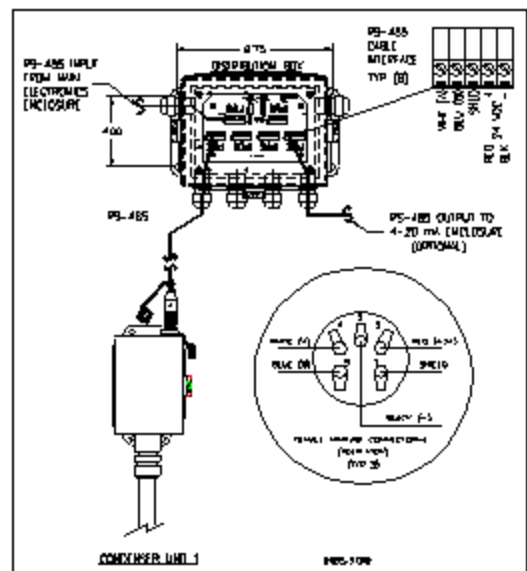

Figure 7 Distribution Box
B. Distribution Box (optional) (see Figure 7)
4. Connect the probes to the distribution enclosure using the manufacturer supplied four conductor shielded cable to any of the screw terminals labeled JP3 to JP6. Probe cable connections are shown in Figure 7.